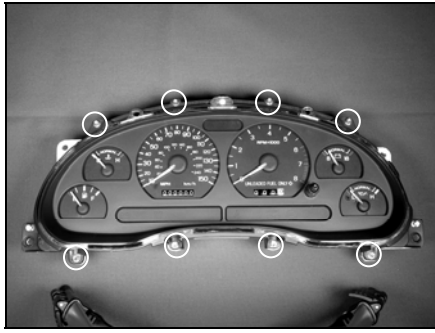

Figure 6
- A. Remove the eight screws around the bezel lens with a T-15 Torx Bit and set the screws aside for later use. Remove the bezel lens from the cluster. (See Figure 6)
- F. Screw the bezel to the white rear housing using the eight brass screws removed in Step 5 with a T-15 Torx Bit. Figure 6 in Step 5 shows these screw locations.